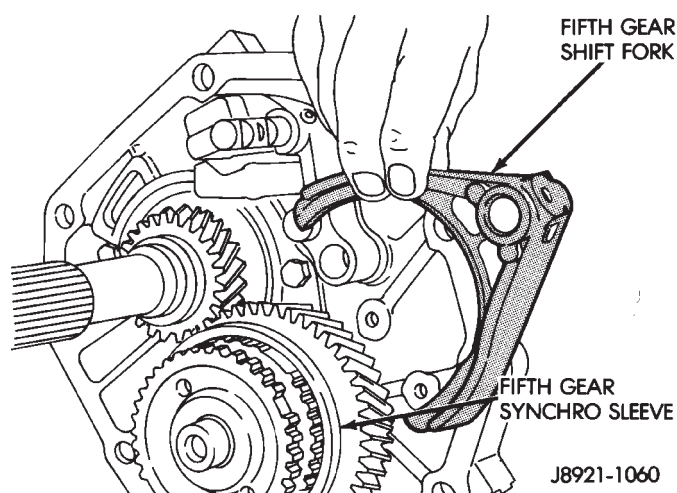

Fig. 106 Installing Fifth Gear Shift Fork
(10) Position fifth gear shift fork in synchro sleeve (Fig. 106).